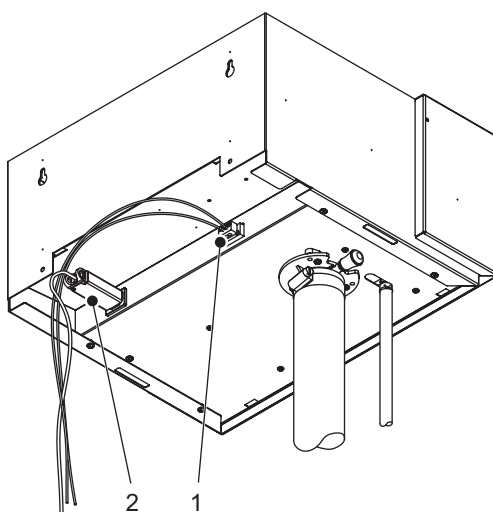

Figure 10: Condair Blower Pack Electrical Connections
- a. Plug the power cable (supplied) and the security loop cable (supplied by others) into the back of the blower pack, but DO NOT plug the power cable into a wall outlet at this point. Refer to Figure 10.